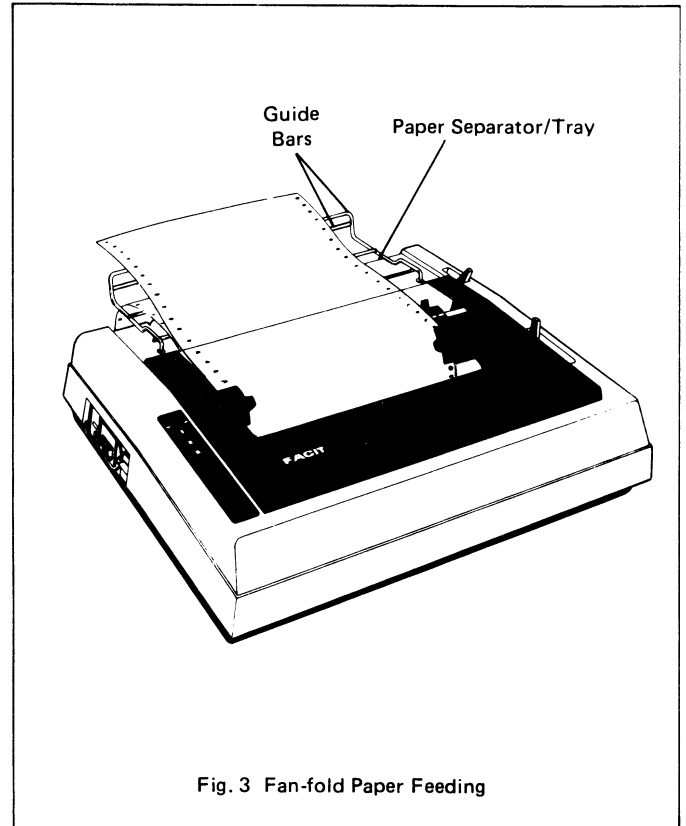
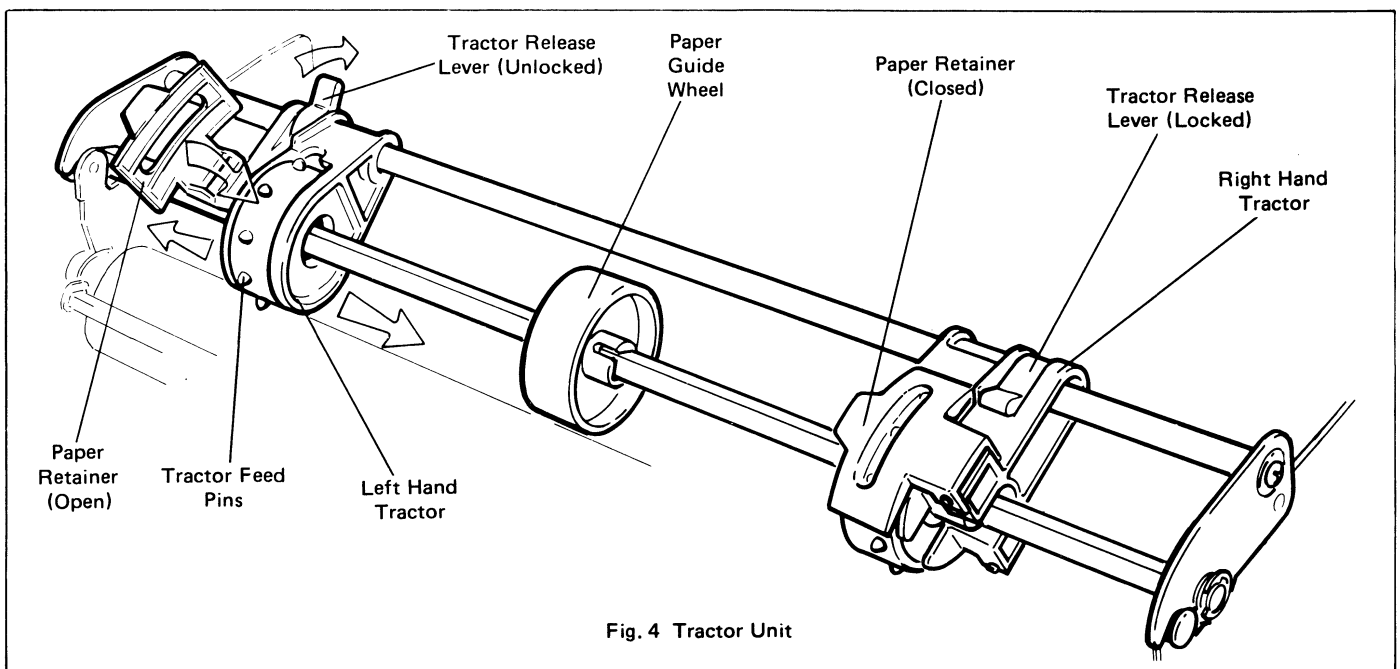

Fig. 3 Fan-fold Paper Feeding
Fig. 4 Tractor Unit
- (1) Ensure that the Tractor Unit and Paper Separator/Tray are in place on the printer (see Replacement of Tractor Unit and Installation of Paper Separator/Tray) and that the printer is Off-line.
- (2) Move the paper edge guides out as far as they will go. Release the two tractors (via their release levers) and move them out also.
- (3) Move the paper bail lever fully forward.
- (4) Close the printer's lid. Feed fan-fold paper up through the Paper Separator/Tray, under the paper guide and down behind the platen, with the printing side of the paper underneath (see fig. 3). Wind the paper in with the platen knob until it appears at the front of the platen. Pull the platen release lever forward to disengage friction feeding.
- (5) Open the printer's lid. Pull the paper up between the platen and the paper bail, and pass it under the back edge of the lid. Align the paper so that the desired margin position coincides with column 0 on the paper bail scale, and so that the edges of the paper entering and leaving the printer are in line.
- (6) Space the rollers on the paper bail evenly across the width of the paper. Move the paper bail lever back so that the paper is trapped between paper bail and platen.
- (7) Open the paper retainers on the tractors (see fig. 4) and slide each tractor in until the tractor pins engage with the holes at the edges of the paper. Lock each tractor and close the paper covers, then centre the paper guide wheel between the tractors.
- (7) Close the lid. Move the paper edge guides in to just touch the edges of the paper.
- (8) Feed paper up (by platen knob or LF/FF switch) and guide the paper over the paper guide and through the back of the Paper Separator Tray. Where multi-part stationery is used these guide bars can be used to assist paper separation (see fig. 3).
- (9) Set the top of form position (see Setting TOF).
- (10) Ensure that the printer is set for the correct format length, line length and skip zone (the host may change these by commands or the Configuration DIP switches SW1/3 to 7 may be changed).
The Paper Separator/Tray is a wire framework which is used to guide fan-fold paper into and out of the printer, to assist separation of multi-part stationery and to act as a collector tray for printed cut sheets (see fig. 3). To fit it: